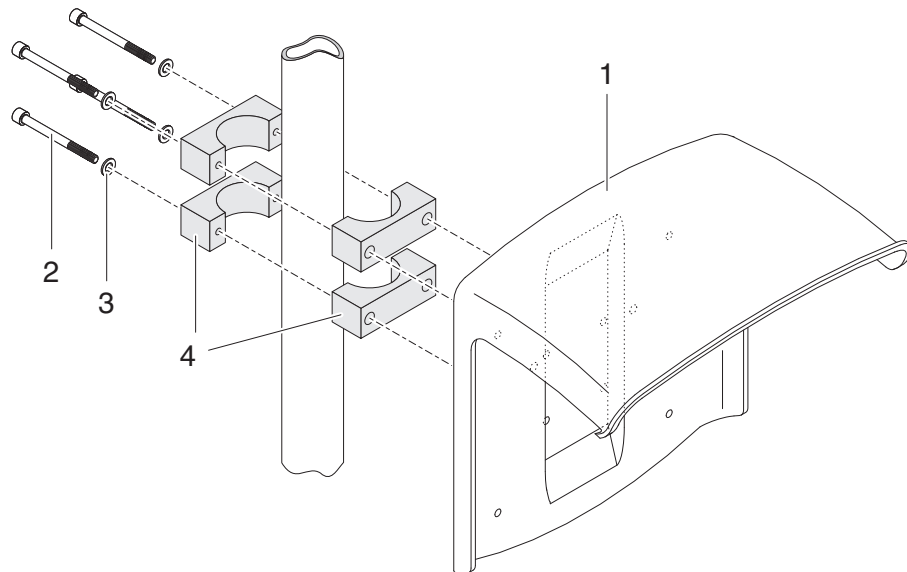

Fig. 3-5 Mounting the SSH/IQ sun shield on a mounting stand
- 1 Screw the sun shield (pos. 1 in Fig. 3-5) with the four hexsocket head screws (pos. 2), the washers (pos. 3) and the clamps (pos. 4) at the required height on the mounting stand from the back.